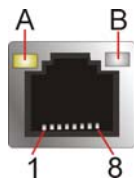

Figure 3-24: Ethernet Connector
- CN Pinouts:** See **Figure 3-24** and **Table 3-24**